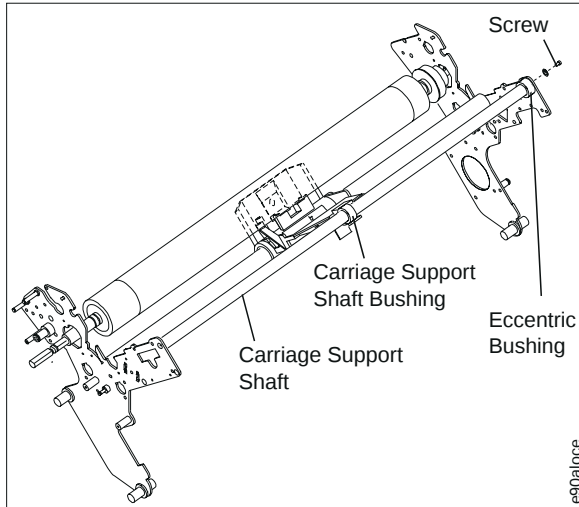

Figure 52. Carriage Support Shaft
4. Using pliers, rotate the eccentric bushing until a minimum difference between the left and right end gaps is obtained. See Figure 52 on page 281.